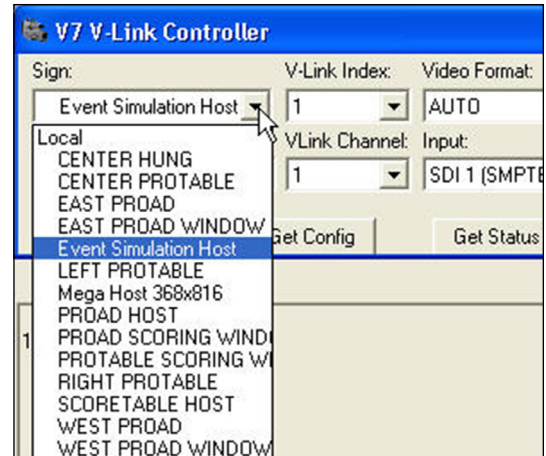

Figure 40: Selecting Sign
- b. Select the sign connected to the VIP-4400 in the **Sign** drop-down box. Refer to **Figure 40**.